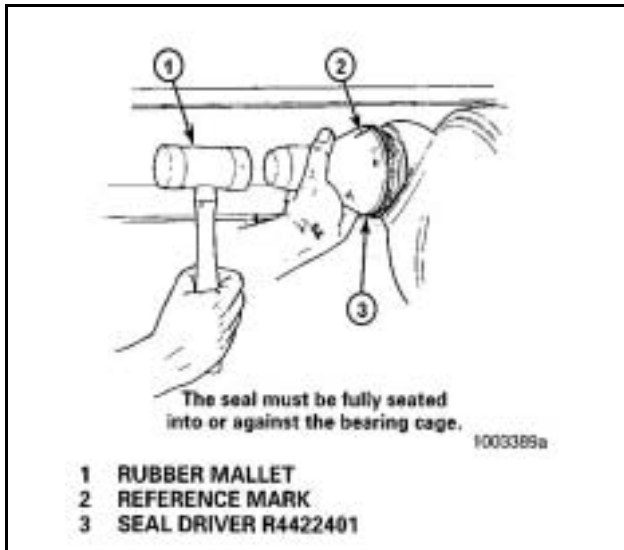

Figure 81
4. Use a rubber mallet to drive the seal into or against the bearing cage. The seal must be fully seated into or against the bearing cage. **Figure 81.**